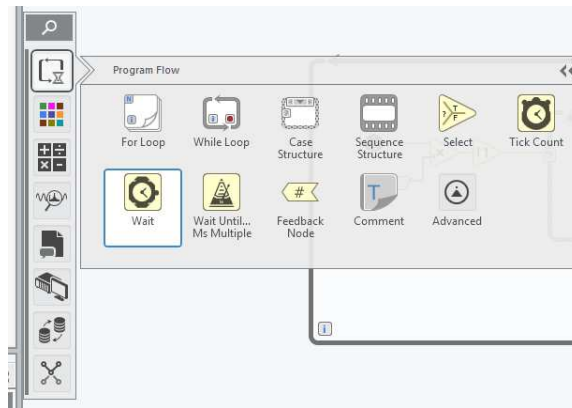
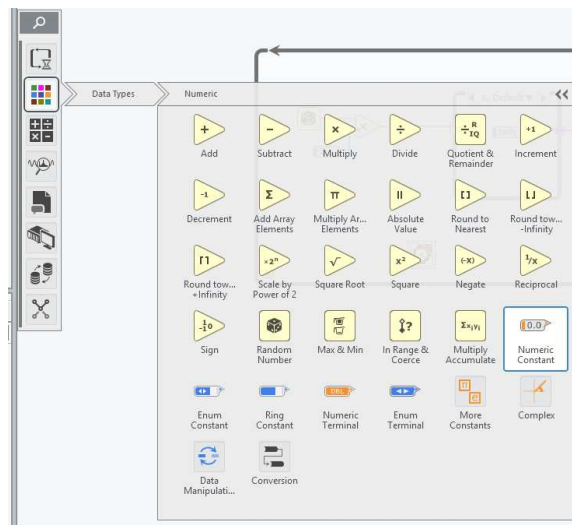

Figure 1.25: Wait
Figure 1.26: Numeric constant
- From the “Diagram Palette” add a “Wait” to the diagram (Fig. 1.25), Then add a numeric constant to the diagram.(Fig. 1.26)